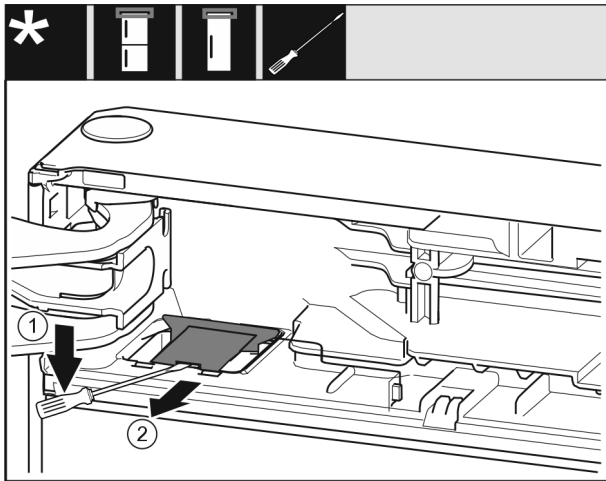

Fig. 11
- Use a flat-blade screwdriver to disengage the cover Fig. 11 (1).
- Remove the cover Fig. 11 (2).